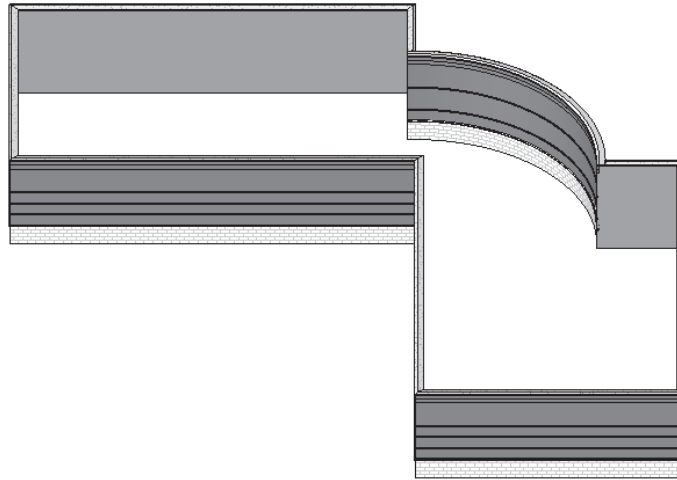

Figure 3-49 3D view of the completed exterior wall profile
4. Choose **View > Shading with Edges** from the menu bar and choose the **3D** button from the **View** toolbar to view the project in 3D, as shown in Figure 3-49.